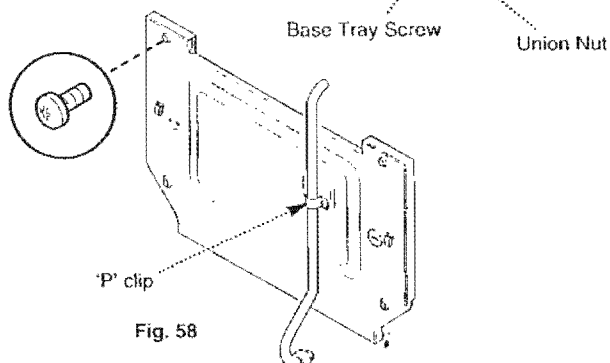

Fig. 58
6. Loosen the 'P' clip and slide the sensing pipe up to clear the burner plate (Fig. 58).
7. Undo the four screws retaining the door and remove the door (Fig. 58).